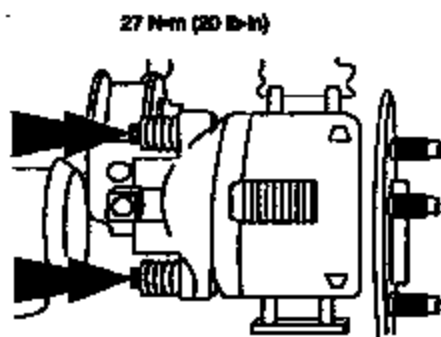

FIGURE 24
1. Install both brake discs and the brake caliper's (refer to Figure 24).